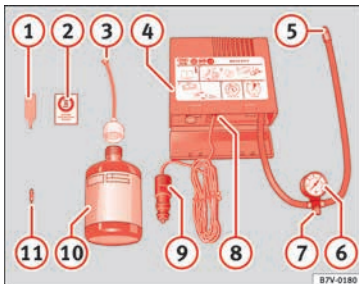

Fig. 68
- Unscrew the tyre valve cap and insert. Use the » Fig. 68 ① tool to remove the insert. Place it on a clean surface.
- Shake the tyre sealant bottle vigorously » Fig. 68 ⑩.
- Screw the inflator tube » Fig. 68 ③ into the sealant bottle. The bottle's seal will break automatically.
- Remove the lid from the filling tube » Fig. 68 ③ and screw the open end of the tube into the tyre valve.
- Place the insert back into the tyre valve using the tool » Fig. 68 ①.
- Screw the compressor tyre inflator tube » Fig. 68 ⑤ into the tyre valve.
- Check that the air bleed screw is closed » Fig. 68 ⑦.
- Insert the connector » Fig. 68 ⑨ into the vehicle's 12-volt socket » Fig. 68 ⑥ page 147.
- Turn the air compressor on with the ON/OFF switch » Fig. 68 ⑧.
- Check the pressure again after 10 minutes » Fig. 68 ⑨ page 91.